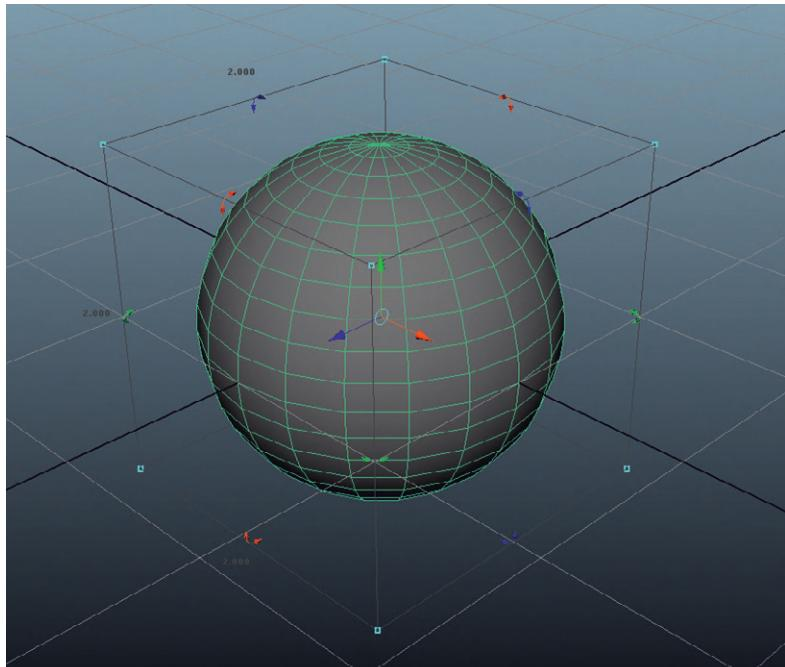

FIG 2.23 The Universal Manipulator. Note there are handles to Move, Scale, and Rotate the object.
Step 31: Activate the Universal Manipulator Tool (Fig. 2.23).